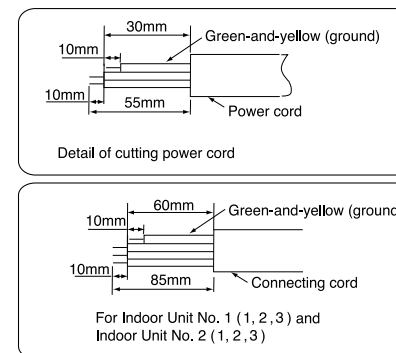

Fig. 3-2
- (1) Cut off the connecting cord, the power cord and strip the insulation of the wire, as shown in Fig. 3-2.